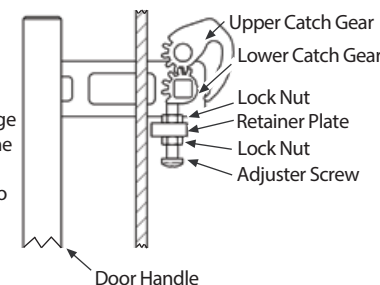

Figure 11-3
- Once the desired adjustment position has been achieved, the lock nut should be re-tightened against the retaining plate. Refer to figure 11.3.